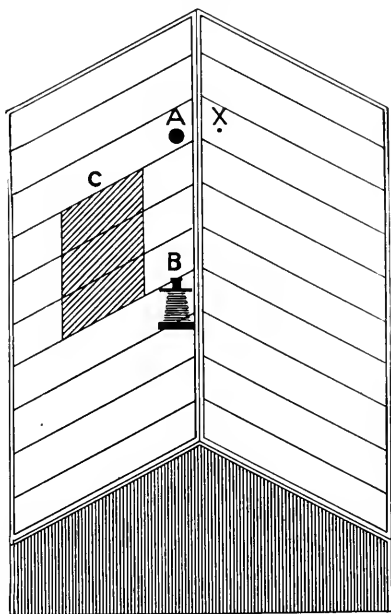

FIG. 5
practically vertical over the subject, but a little to the front and right (or left in the case of a right-hand light) side, as shown in Fig. 5. In this diagram, A represents the sitter, B the camera, and C the light area.
**Modification.** us the main direction of the lighting, but they are, of course, subject to slight modification according to differences in individual studios, or the requirements of different subjects. For instance: in a studio with a low skylight, equipped with a single set of black or opaque blinds, this arrangement will probably give a hard lighting. To remedy this, the sitter may be placed nearer to the center of the width of the studio, marked X in Fig. 5, and so gain the advantage of the greater diffusion of the light at that point. This will insure softness in the modeling of the features, and a better rendering of the delicate half-tones which lie within the broad masses of light and shadow.